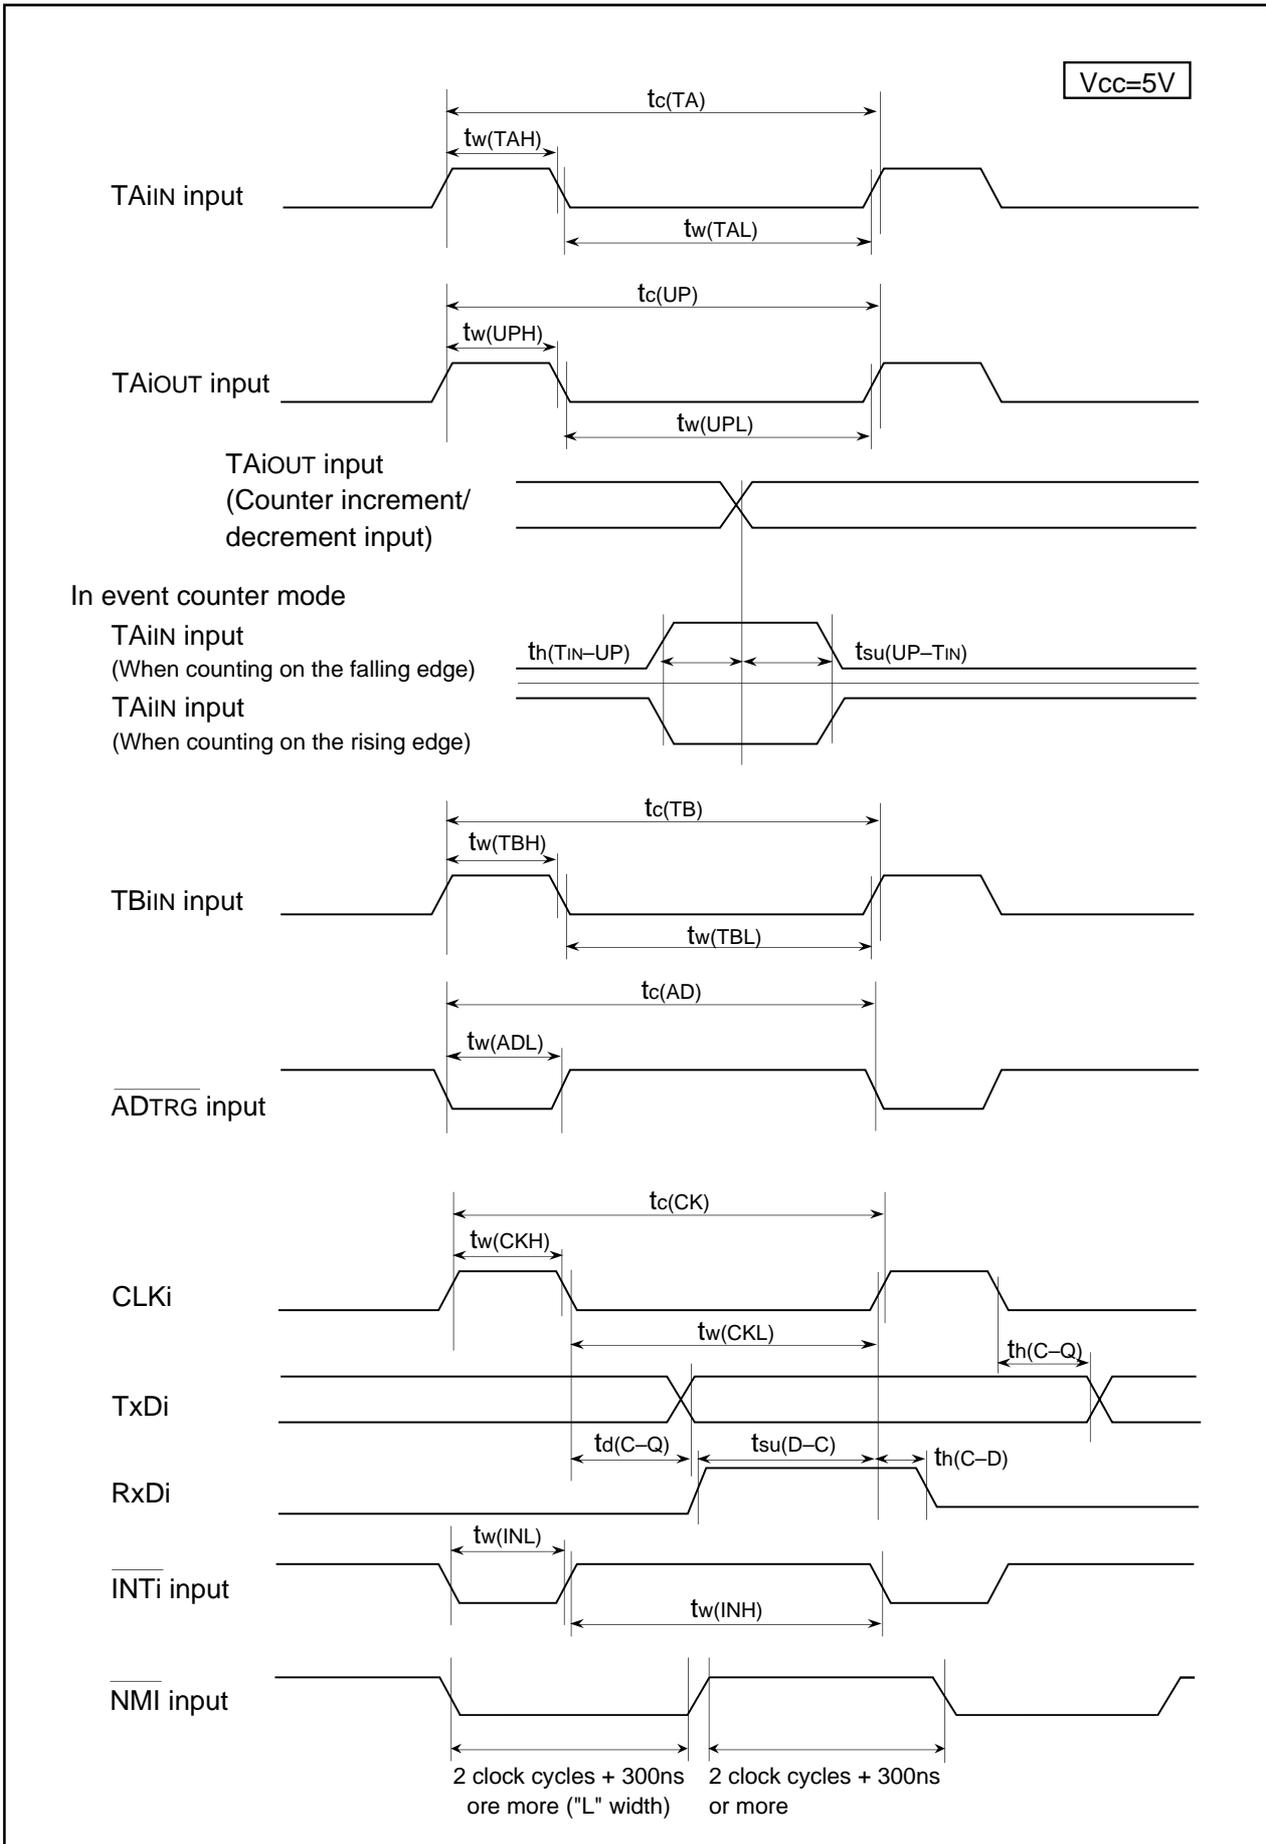

Figure 5.8 V_{CC}=5V Timing Diagram (7)
79	<ul style="list-style-type: none"> • Figure 5.8 Vcc=3.3 V Timing Diagram (7) Timing for $\overline{\text{NMI}}$ input added